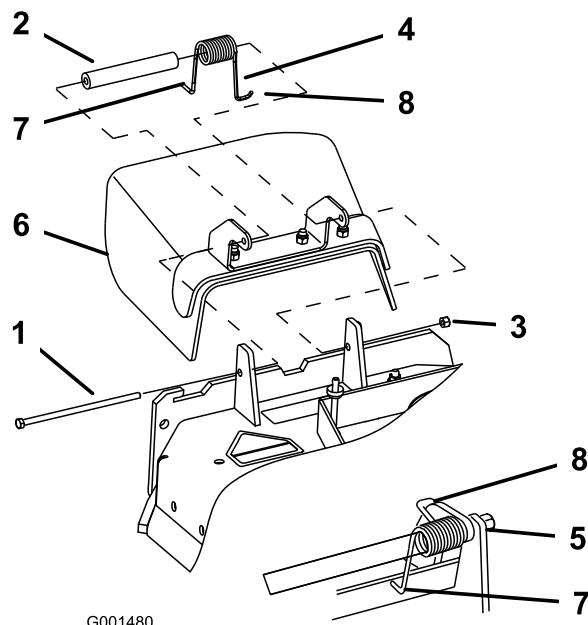

Figure 45
Note: Make sure the **L** end of spring is installed behind deck edge before installing the bolt as shown in Figure 45.
3. Install bolt and nut. Place the **J** hook end of spring around grass deflector (Figure 45).
1. Remove the locknut, bolt, spring and spacer holding the deflector to the pivot brackets (Figure 45). Remove damaged or worn grass deflector.